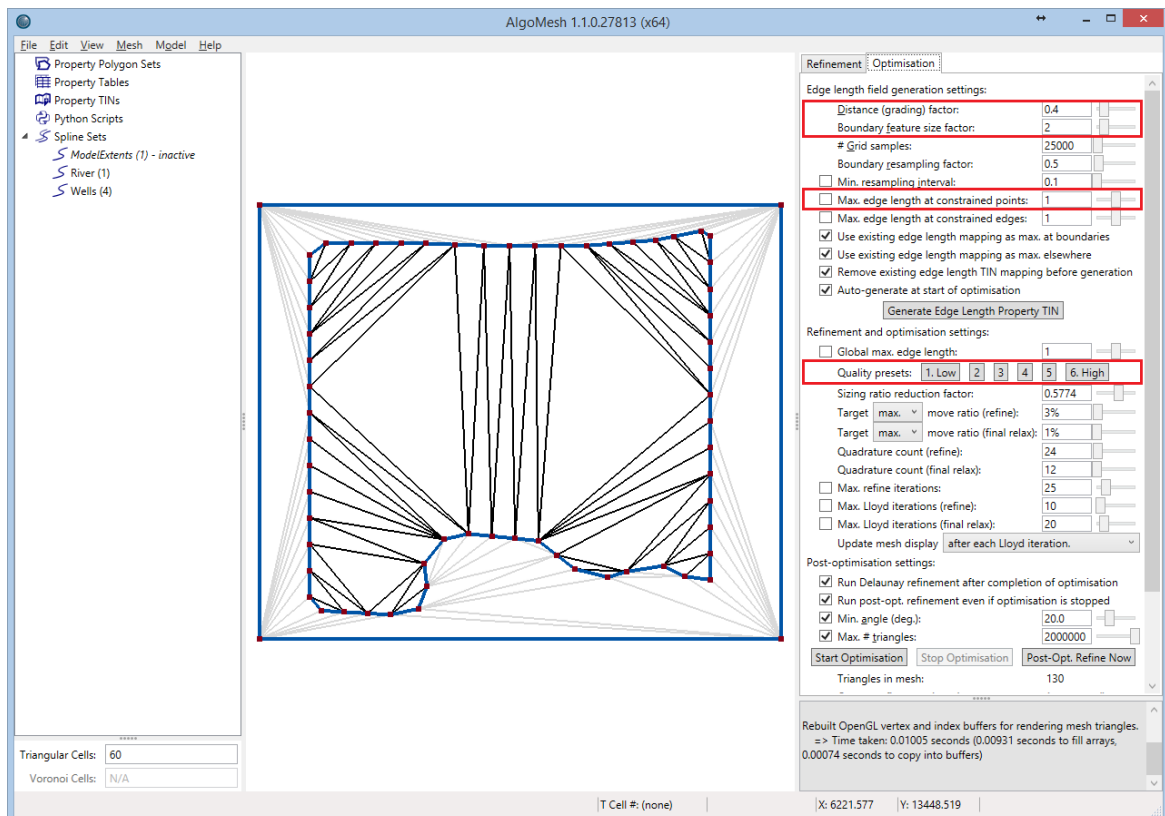

Figure 24: The initial geometry and default optimisation settings.
- In the **View** menu, turn off **Splines** so that you have a good view of the mesh you are going to generate. You will notice the river and wells disappear from the view (Figure 24), but these will be visible when they are added into the generated mesh later.